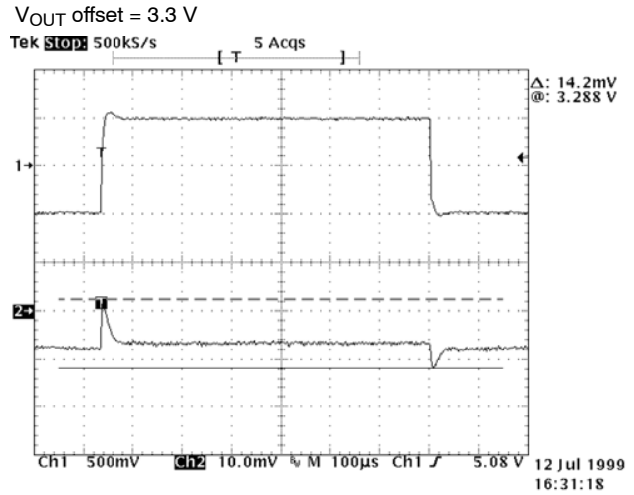

Figure 11. Line Step Response
**Line Step Response.** Figure 11 shows the output response of the regulator to a  $V_{CC}$  line voltage transient between 4.5 V and 5.5 V (1 Vpp as shown on Ch1). The load condition during this test is 5 mA. The output response produces less than 10 mV of disturbance on both edges indicating a line rejection of better than 40 dB at high frequencies.